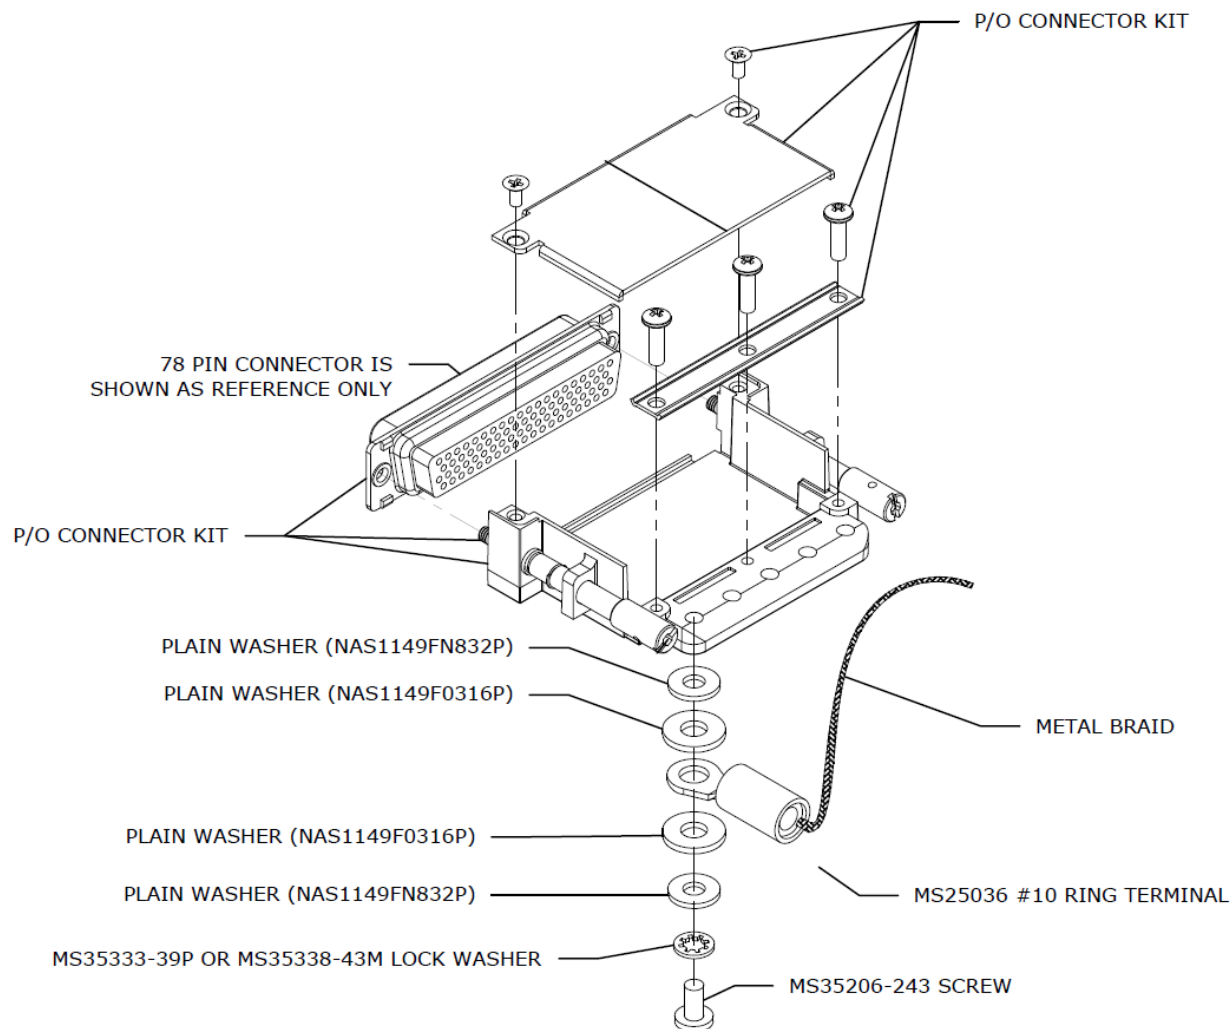

Figure 4-62 #10 Terminal Installation on Garmin Backshell
6. If using a #10 ring terminal for connection to the backshell, use the following method to connect the #10 terminal to the LRU backshell, create the following hardware buildup as shown below in Figure 4-62.